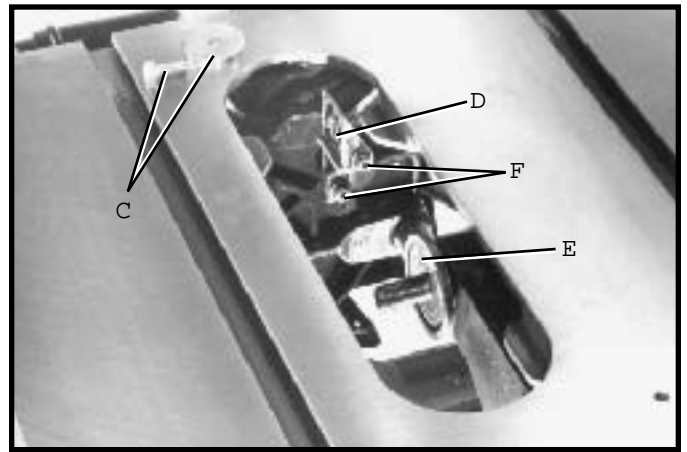

Fig. 28
5. If an alignment is necessary, loosen the two screws (F) Fig. 28, align bracket (D) with the arbor flange (E) and tighten screws (F).
6. Loosely assemble large washer and screw (C) Fig. 28, to the inside splitter bracket. This screw and washer was removed in STEP 3.